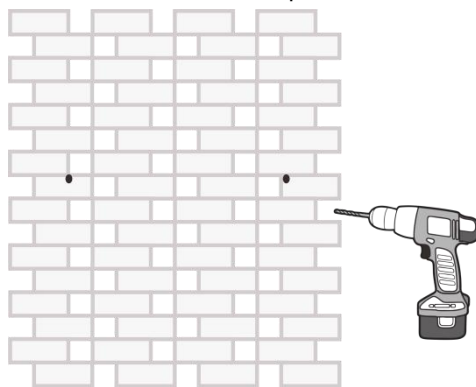

Figure 3-3
1. Make the LV-Link A parallel to the ground using a horizontal measuring instrument. Mark the screw holes on the wall using the two holes of the LV-Link A, and drill the holes, as shown in Figure 3-3. Use an electric drill to drill two holes with a diameter of 10mm and a depth greater than 70mm on the wall to install M6 expansion bolts.